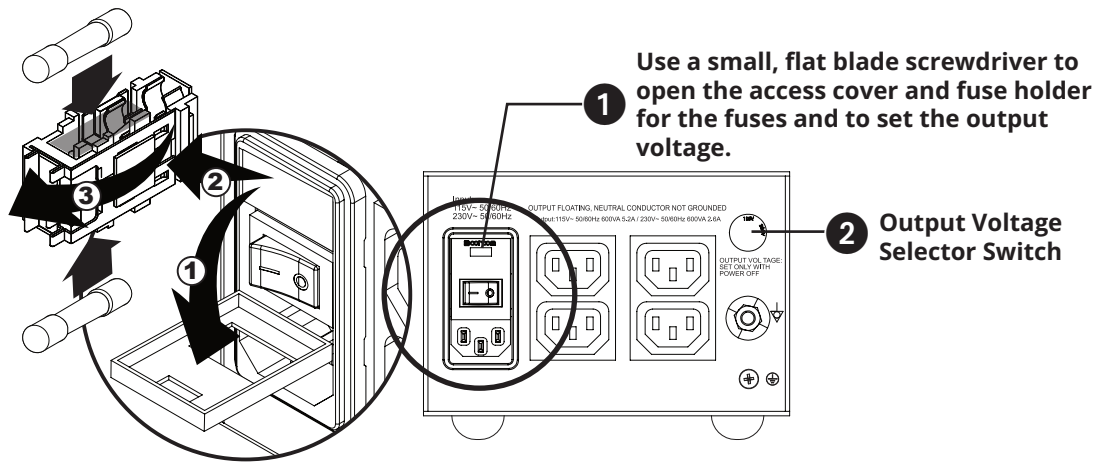

Figure 1
Input voltage selection is made via the inlet fuse holder (Figure 1). The voltage selected will display above the power switch ①. You will also have to insert the correct fuse value depending on the transformer model and input voltage. For correct fuse value, see the table in section 3.1.5. Output voltage selection is made with the selector switch ②.